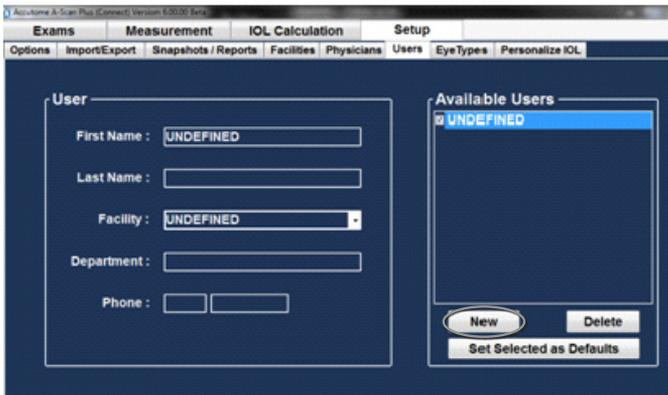

Figure 5.38 - New User Information
1. In the Users screen select “New” as shown in Figure 5.38 below.